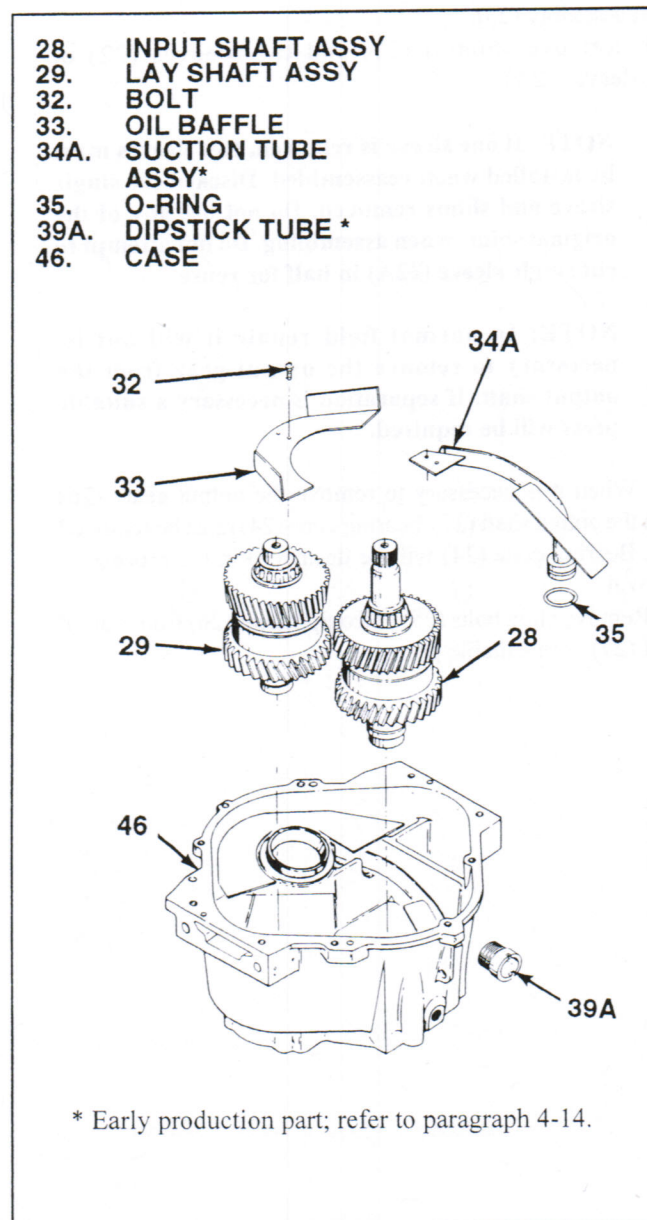

Figure 3-4. Input and Lay Shaft Assemblies
1. Holding output flange (18) with coupling wrench T-5005, remove flange nut (17). Remove output flange (18). Remove sealant from output flange, nut and end of output shaft (27) as required.
2. Grasp output gear (26) and remove output shaft assembly (23).
3. Remove shim(s) (21) and two sleeves (22) or one sleeve (22A).
4. When it is necessary to remove the output gear (26) from the output shaft (27), bearing cone (24) must be removed first. Bearing cone (24) will be destroyed in the process of removal.
5. Remove eight bolts (25) and output gear (26) from output shaft (27) with suitable press.
**3-10. REMOVAL OF INPUT AND LAY SHAFT ASSEMBLIES.** With open end of transmission up, proceed as follows (see figure 3-4):
1. Remove two bolts (32), oil baffle (33) and the oil suction tube assembly with dipstick guide (34A), if used. Remove oil filler tube with dipstick tube assembly (39). If the oil dipstick tube (39A) is used, it need not be removed.
2. Pull input shaft assembly (28) and lay shaft assembly (29) straight up out of case (46).